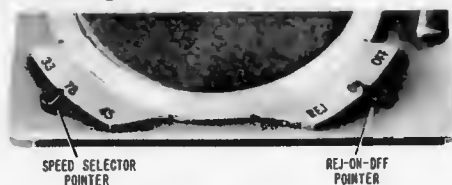

Figure 2. RC600 Record Changer Control Panel.
**SETTING THE SPEED SELECTOR KNOB:** Correct turntable speed may be selected by sliding the speed selector pointer to the position indicated for 33, 78 or 45 RPM. See figure 2.